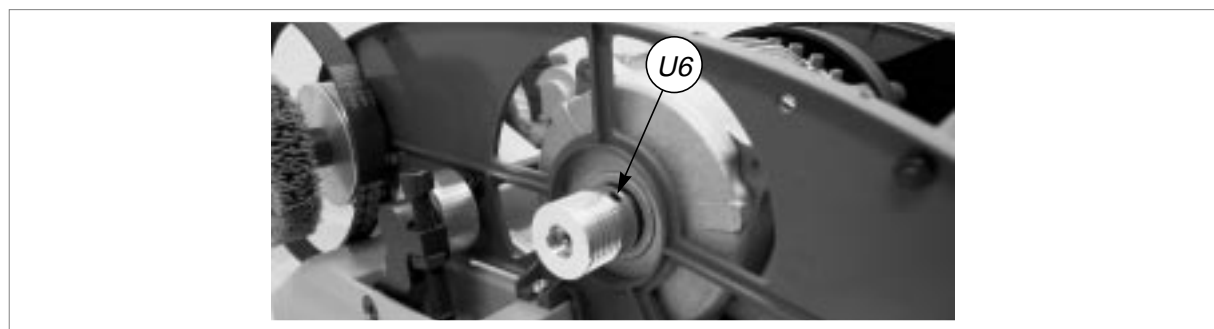

Fig. 36
- 10) Loosen the 4 fixing screws on the motor (fig.36) and remove, paying attention to the wire.
- 11) Loosen the grub screw (U6) on the motor pulley (fig.36). Remove the pulley and fit to the new motor. Secure by tightening the grub screw (U6).